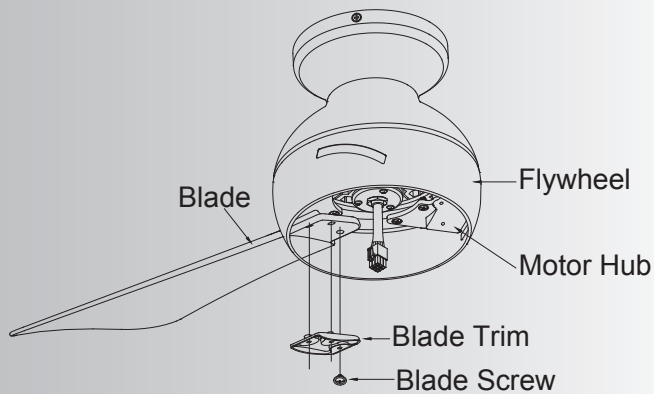

Fig. 11
Step 2. Insert the blade through the slots on the flywheel and attach to the motor hub using the blade screws and blade trim. Make sure the screws securing the blades to the motor hub are tightened and are properly seated. (Fig. 11)